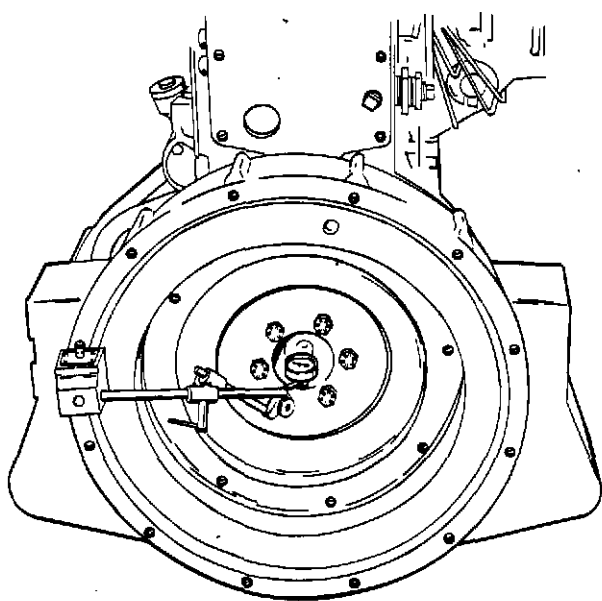

Figure 5-27. Indicating Flywheel Pilot Bore
2. Attach the indicator, as shown in figure 5-27, to check the concentricity of the pilot bore. This should not exceed 0.005 inch total indicator reading.
12. Check concentricity of bellhousing in relation to flywheel (figures 5-27 and 5-28).